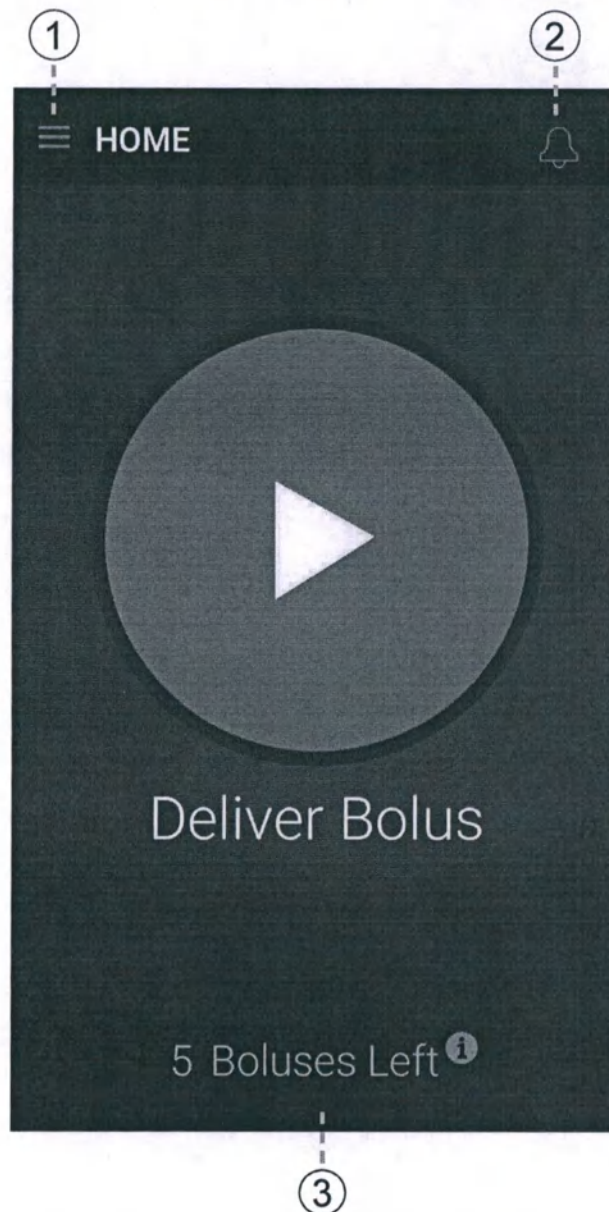

Figure 3: HOME screen with Deliver Bolus
4. On the **HOME** screen (Figure 3), press **Deliver Bolus** .
You can view alert messages previously retrieved from the pump by tapping on the alert button  in the upper right corner of the myPTM app screen (Figure 3). Read the alert message and follow the instructions. The color of the number next to the alert button () and the alert message title indicate the alert type, as shown in Table 3. Contact your clinician if you have any questions about alerts.